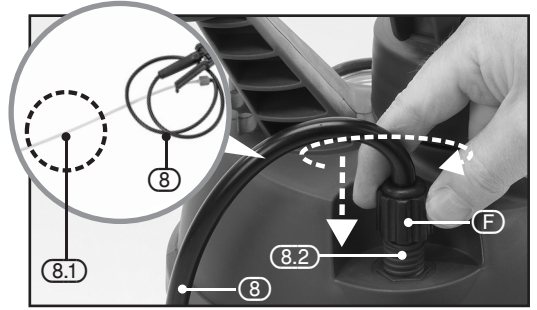

FIG. 5
8.3 ATTACHING THE HOSE – FIG. 5
- Insert the suction tubing (8.1) of the hose (8) into the spray bottle through the hose inlet (8.2).
- Screw the compression fitting (F) to secure the hose in place.